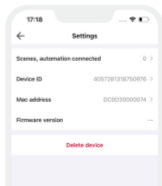

Figure 2
3. Click the "Delete Device" button (as shown in Figure 2).